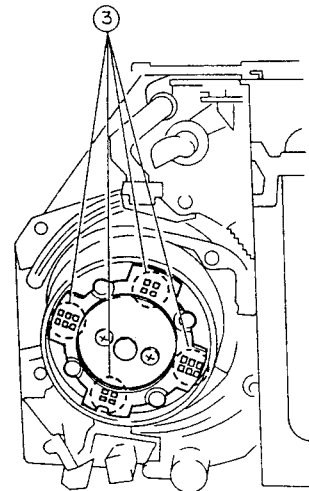
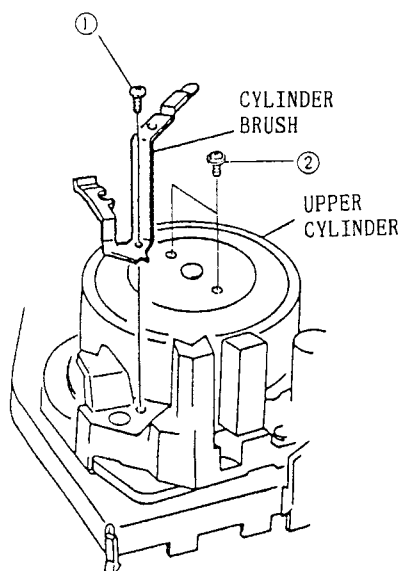

Fig. 2-55
Fig. 2-54
1. Remove one (1) screw holding the cylinder brush. (See Fig. 2-54)
2. Remove two (2) screws holding the upper cylinder.
3. Unsolder eighteen (18) points on the upper cylinder and pull out the upper cylinder from the lower cylinder. (See Fig. 2-55)